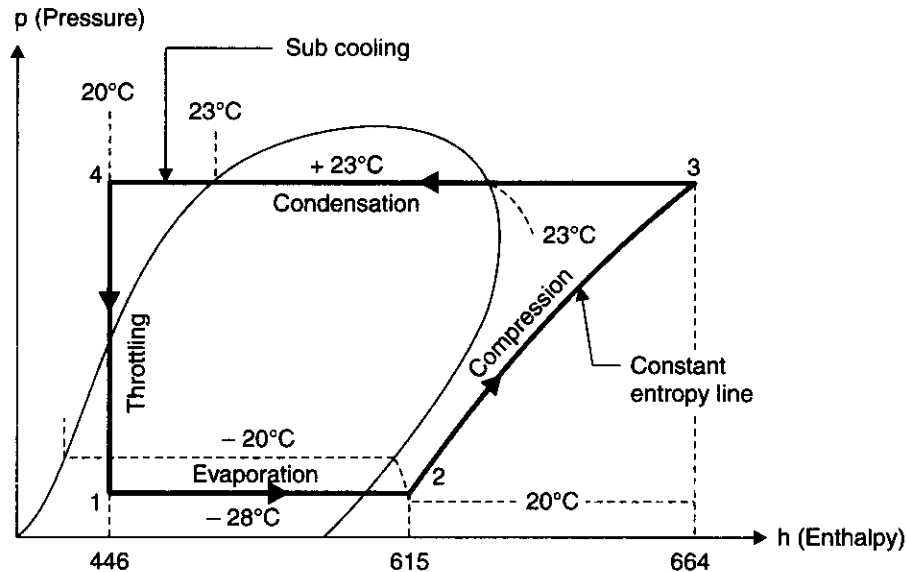

Fig. 14.37
**Solution.** Refer Fig. 14.37. Following the procedure as given in the previous example plot the points 1, 2, 3 and 4 on  $p-h$  chart for freon-22. The following values are obtained :